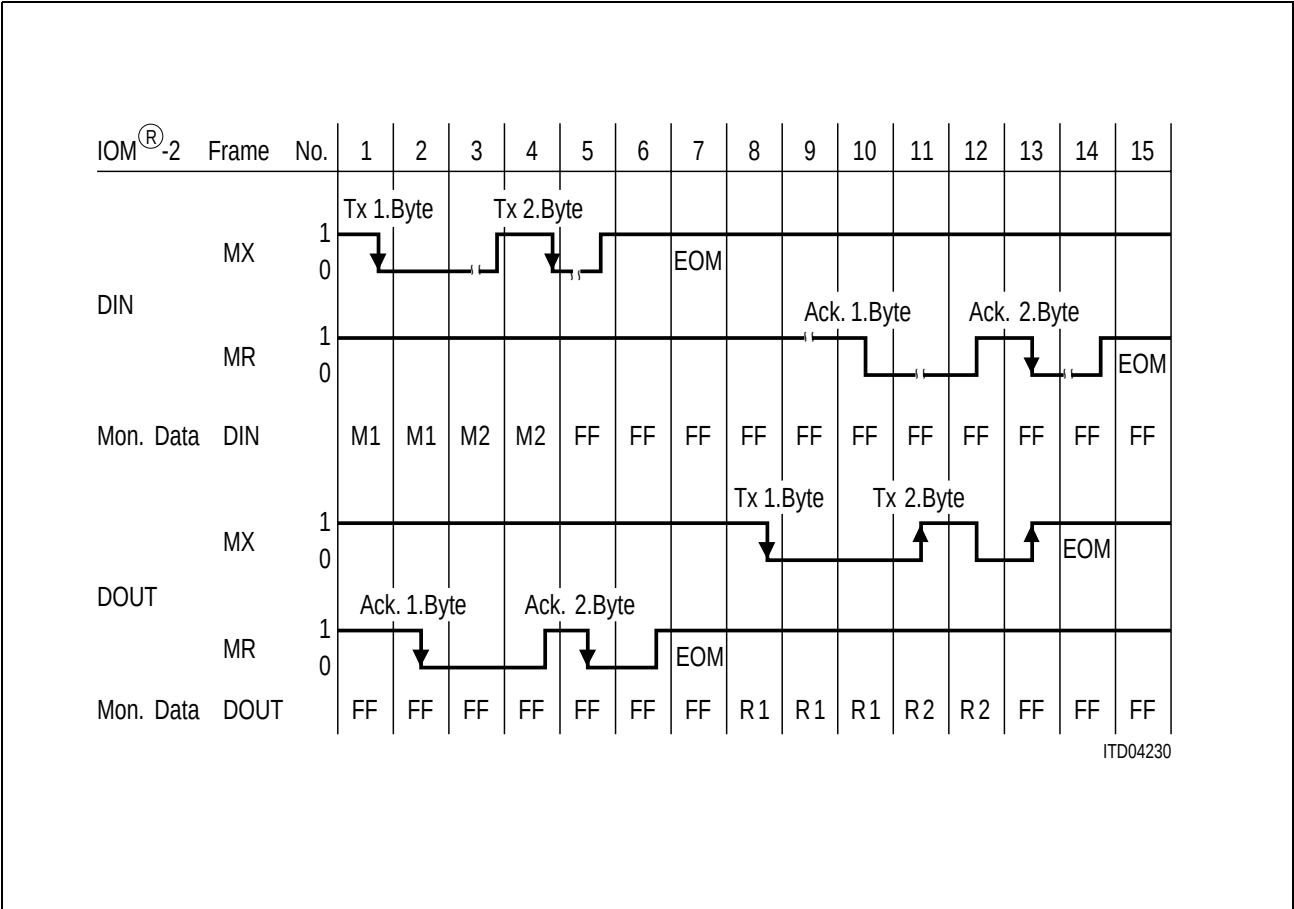

Figure 28 Handshake Protocol with a 2-Byte Monitor Message/Response
Figure 28 illustrates a Monitor Channel transfer of a 2-byte monitor command followed by a 2-byte IEC-Q-response. This requires a minimum of 15 IOM®-2 frames (reception 7 frames + transmission 8 frames = 1.875 ms). In case the controller is able to confirm the receipt of first IEC-Q-response byte in the frame immediately following the MX-transition on DOUT from high to low (i.e. in frame No. 9), 1 byte may be saved1) (7 frames + 7 frames).
*Note 16: Transmission and reception of monitor messages can be performed simultaneously by the IEC-Q. In the procedure depicted in figure 28 it would be possible for the IEC-Q to transmit monitor data in frames 1–5 (excluding EOM-indication) and receive monitor data from frame 8 onwards.*
postpone the answer until after the internal reset, see "Monitor Procedure Time-Out (MTO)", page 55. Figure 28, page 78 illustrates the case where the response can be sent immediately.